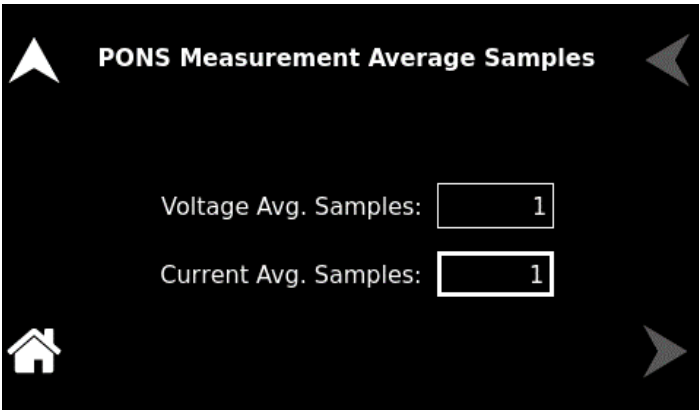

Figure 10-167. PONS Measurement Average Samples
**PONS Measurement Average Samples**      Users can specify how many readings should be averaged together to minimize noise in the output. Refer to Figure 10-167.